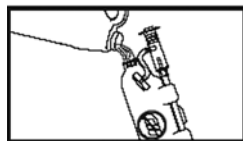

Figure 3
- Add cleaning solution (Figure 3). See manufacturer's instructions for information on specifications and proper use of cleaning solution.